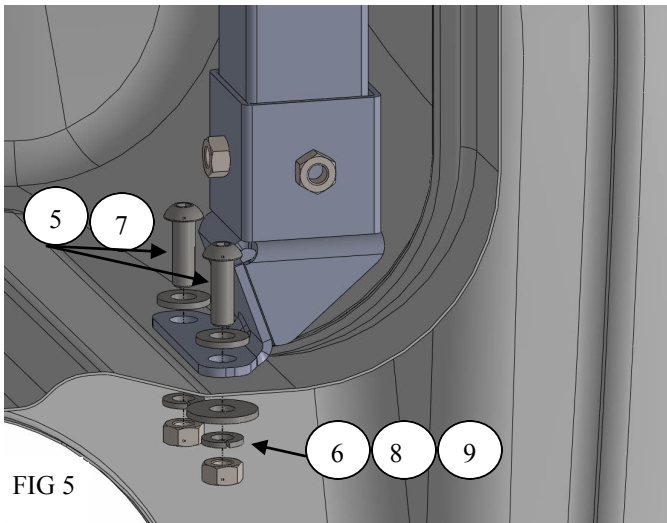

FIG 5
- Install the upper and lower mounting bracket as shown in figures 5&6. If there is no rear access to the drilled holes follow step 7a to install rivet-nuts.